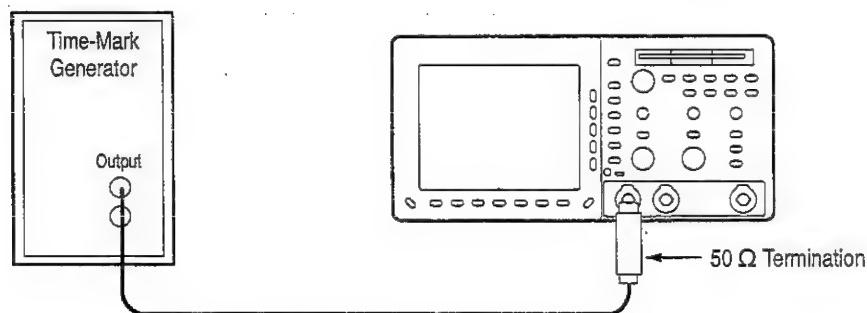

Figure B-5: Hookup for sample rate check
1. Connect, through a $50\ \Omega$ precision coaxial cable and a $50\ \Omega$ termination, the time-mark output of a time-marker generator to **CH 1**, as shown in Figure B-5. Set the output of the generator for 10 ms markers.